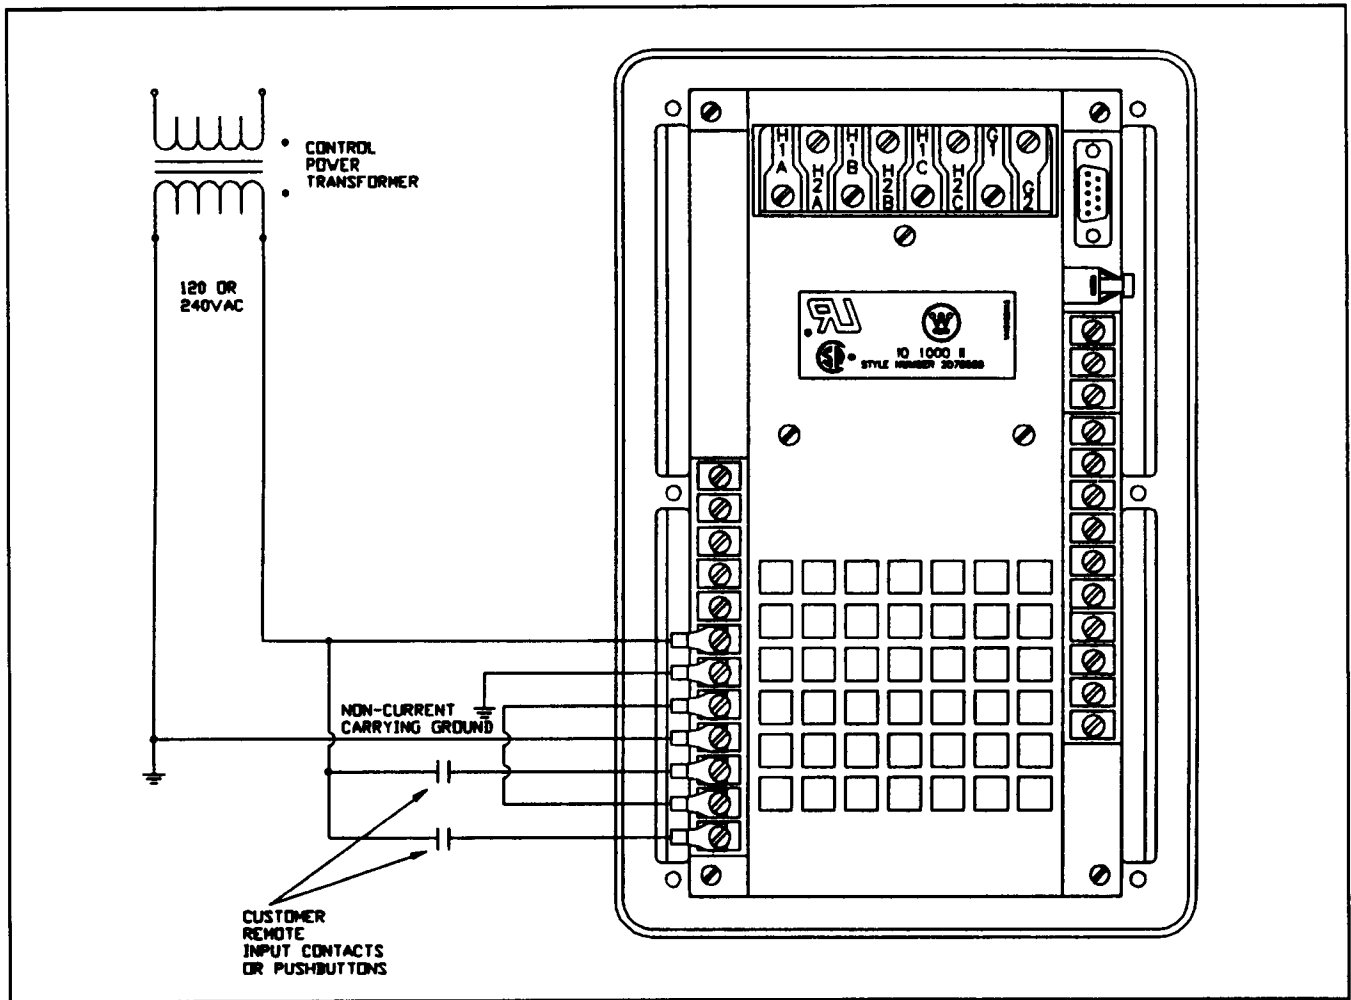

Figure 5.11 — IQ-1000 II Remote Input Wiring for 120 or 240 VAC Control Power
- The IQ-1000 II accepts either 120 or 240 VAC inputs for control power or remote inputs (see Figure 5.11). All input relays are rated for 120 or 240 VAC with the exception of the Incomplete Sequence and Remote Trip/Reset terminals, which are rated for 120 VAC ONLY.
If 240 VAC control power is being applied, and Incomplete Sequence option and/or Remote Input option is being used, verify that only 120 VAC will be present across terminals 8 and 9 and terminals 9 and 10. See Paragraph 5.2, **Wiring-General** and Figure 5.11 for additional 240 VAC wiring information.